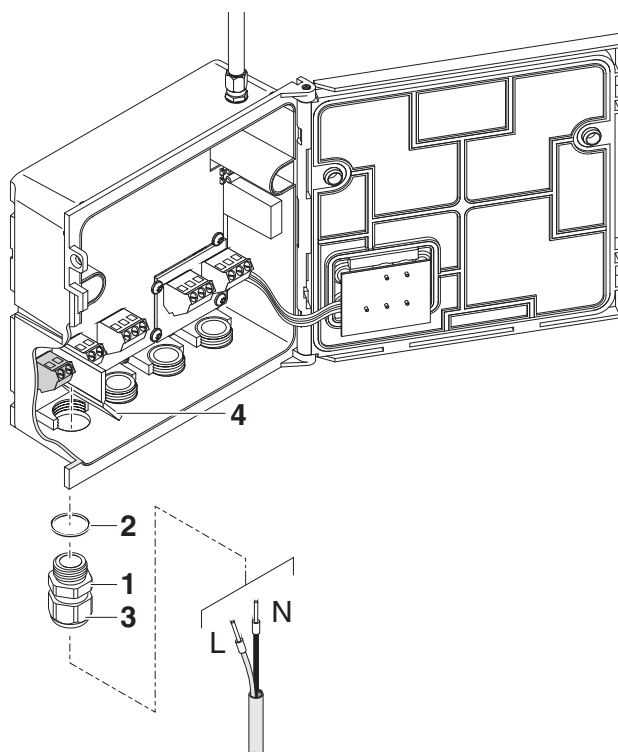

Fig. 3-8 Inserting the supply line.
- 6 Screw a cable gland (pos. 1 in Fig. 3-8) with sealing ring (pos. 2) into the enclosure below the power supply connection.
- 7 Loosen the coupling ring (pos. 3).
- 8 Feed the power line through the cable gland into the enclosure. When doing so bend the flexible divider (pos. 4) to the right.